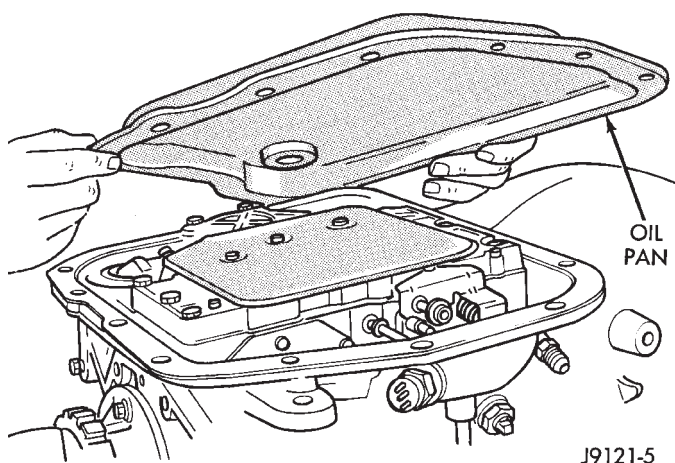

Fig. 4 Oil Pan Removal/Installation
(8) Remove oil pan bolts and remove pan and gasket (Fig. 4).